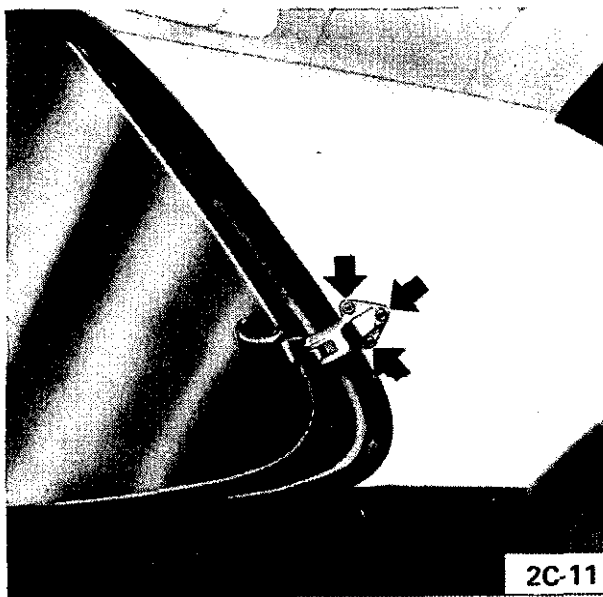

Figure 2C-11 Quarter Window Lock Attaching Screws
1. Unscrew rear quarter window lock. See Figure 2C-11.
2. Unscrew window hinge from lock pillar while holding window. See Figure 2C-12.